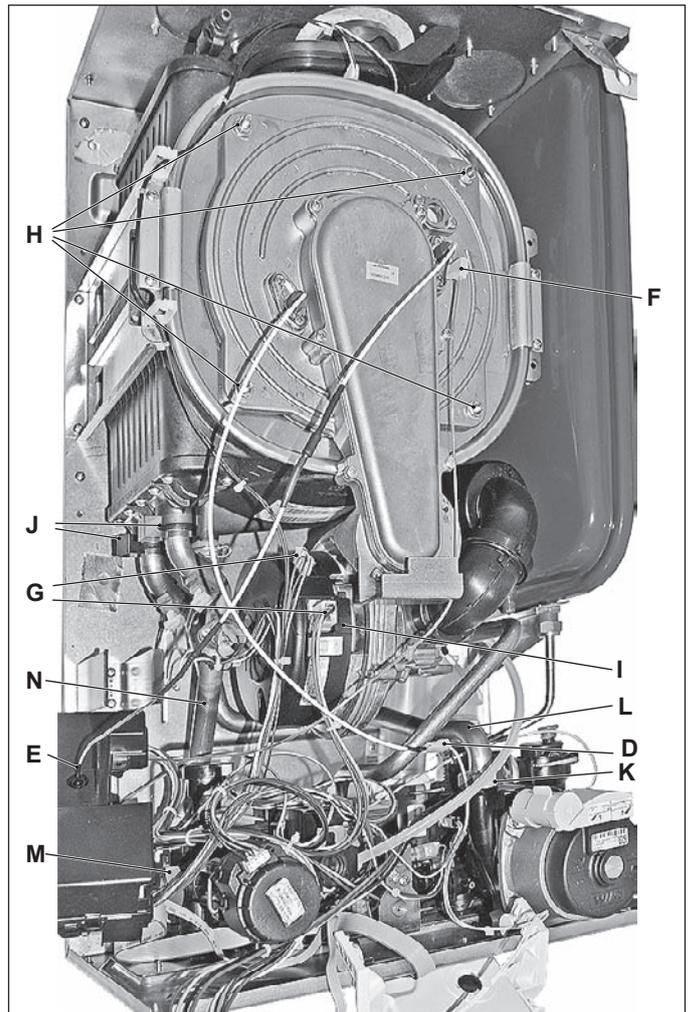

Figure 5.2
- 4 Disconnect the fan connector G by pressing the plastic hook placed on the side of the connector (Figure 5.2).
- 5 Unscrew the nuts H (Figure 5.2).
- 8 Remove the clips J (Figure 5.2).
- 9 Loosen the connection K and slightly move the pipe L upwards, turn it towards left (Figure 5.2) and then move the pipe downwards freeing it from the Condensing heat exchanger.
- 10 Loosen the connection M and slightly move the pipe N upwards, turn it towards left (Figure 5.2) and then move the pipe downwards freeing it from the Condensing heat exchanger.
**Ensure to tighten the nuts H - Figure 5.2 firmly.**